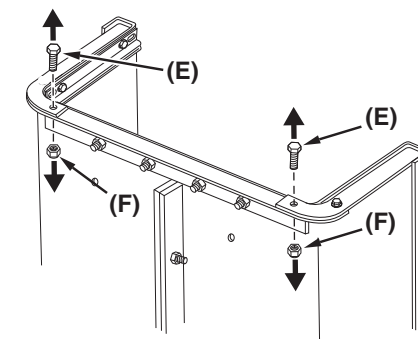

Figure 7
**STEP 7 (SEE FIGURE 7):** Remove (E) and (F) installed in Step 5.